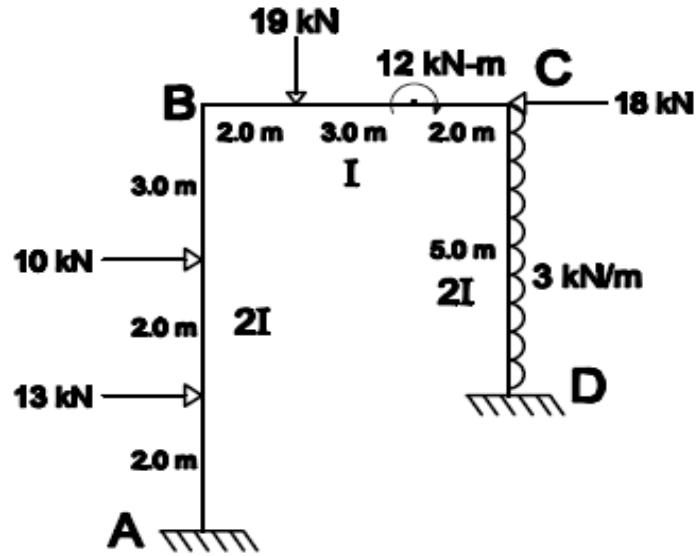

Figure 7
- 7 Analyse the given frame using flexibility method. Also draw B.M.D.[Figure.7]